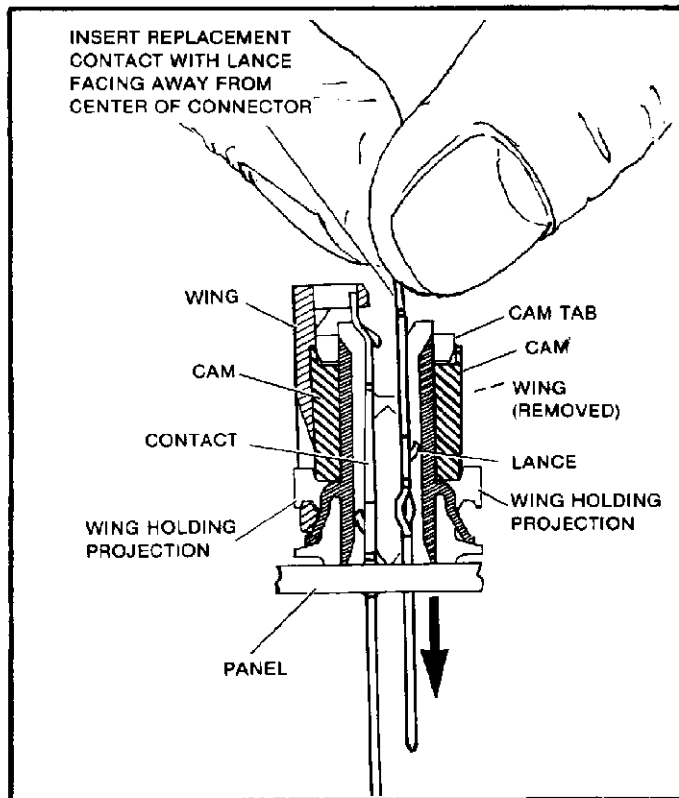

Figure 3
- (a) Insert replacement contact, with lance facing away from center of connector, into place in connector housing and through pin hole in pc board or panel. See Figure 3.